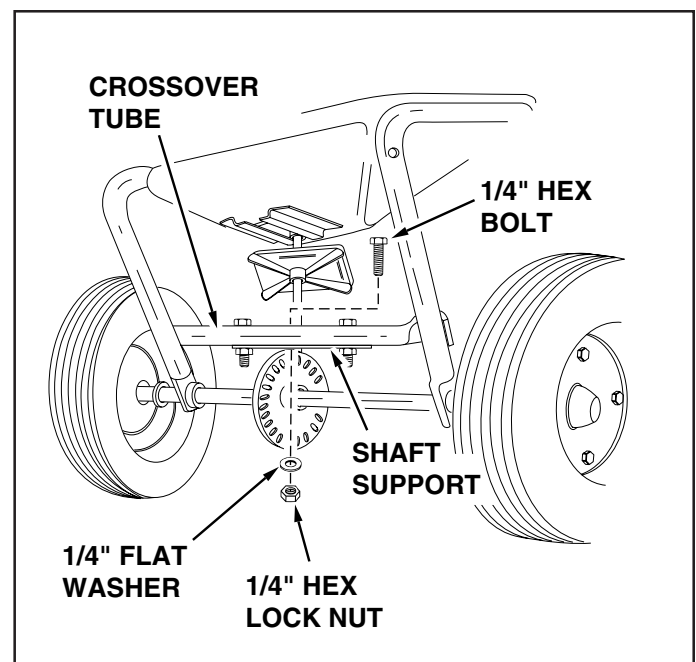

FIGURE 6
8. Remove the 1/4" hex bolt, flat washer and hex lock nut from the center of the crossover tube. See figure 6.
9. Place the handle tube (long) on the crossover tube, (side between crossover tube and hopper), align the holes in the handle tube, crossover tube, and shaft support. Assemble with 1/4" hex bolt, flat washer and hex lock nut removed in the previous step. See figures 6 and 7. **DO NOT TIGHTEN AT THIS TIME.**